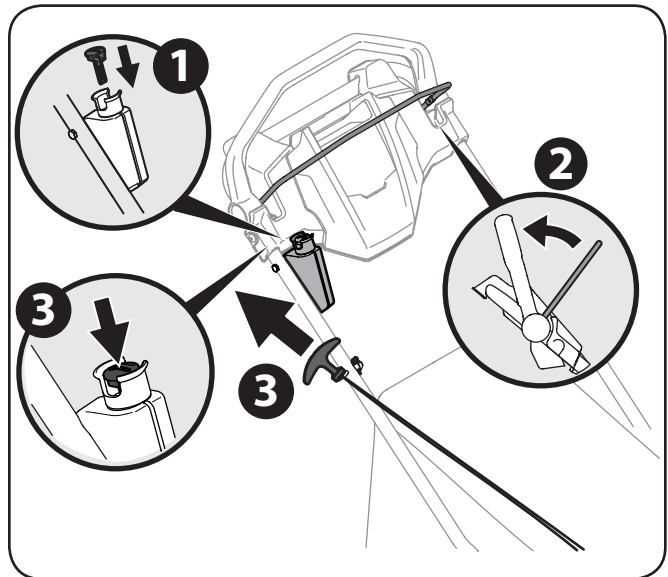

Figure 5-4
2. Standing behind the mower, pull the blade control back against the drive control. See Figure 5-4.
Electric Start (If Equipped): Push the electric starter push key to start the engine. See Figure 5-4.